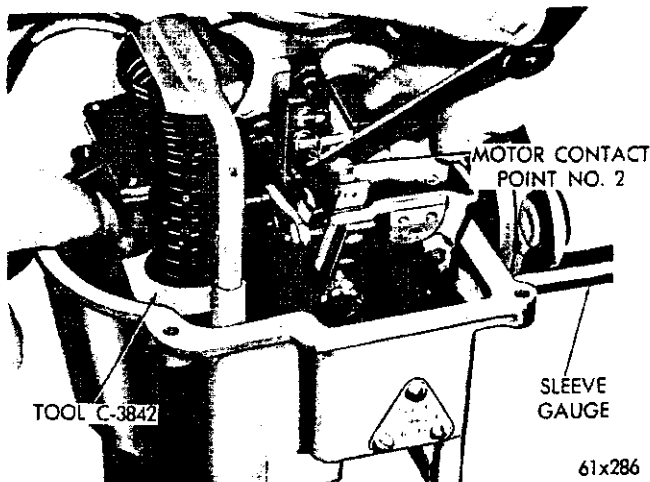

Fig. 39—Point Gap Setting
(7) Hold the armature lever against the sleeve gauge and use a feeler gauge to check the clearance between the contact arm point and motor contact point #2 (Fig. 39).